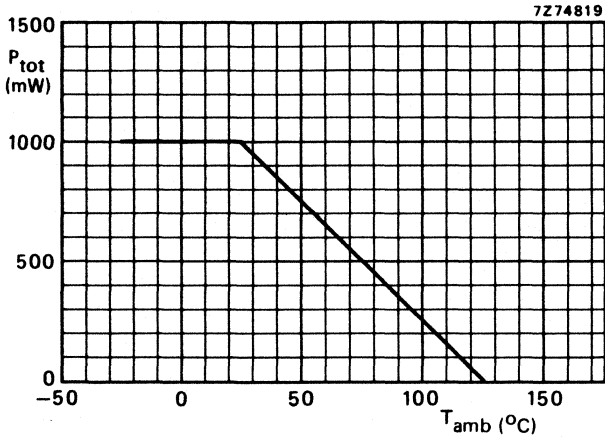

Fig. 4 Power derating curve.
see derating curve Fig. 4
A.F. output power (see Fig. 4) at  $d_{tot} = 10\%$ ;